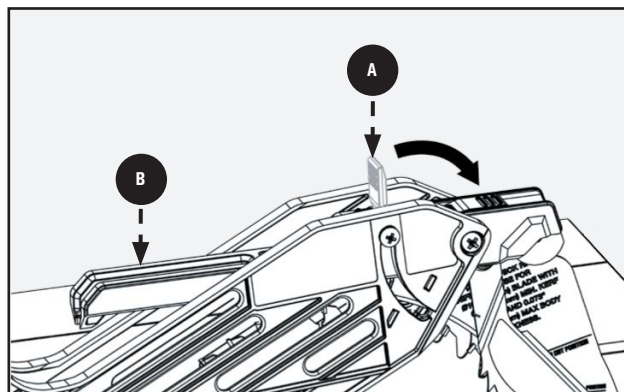

FIGURE 16
1. Lift the Blade Guard Assembly Lock Tab **A** to the unlocked position as seen in Figure 16.